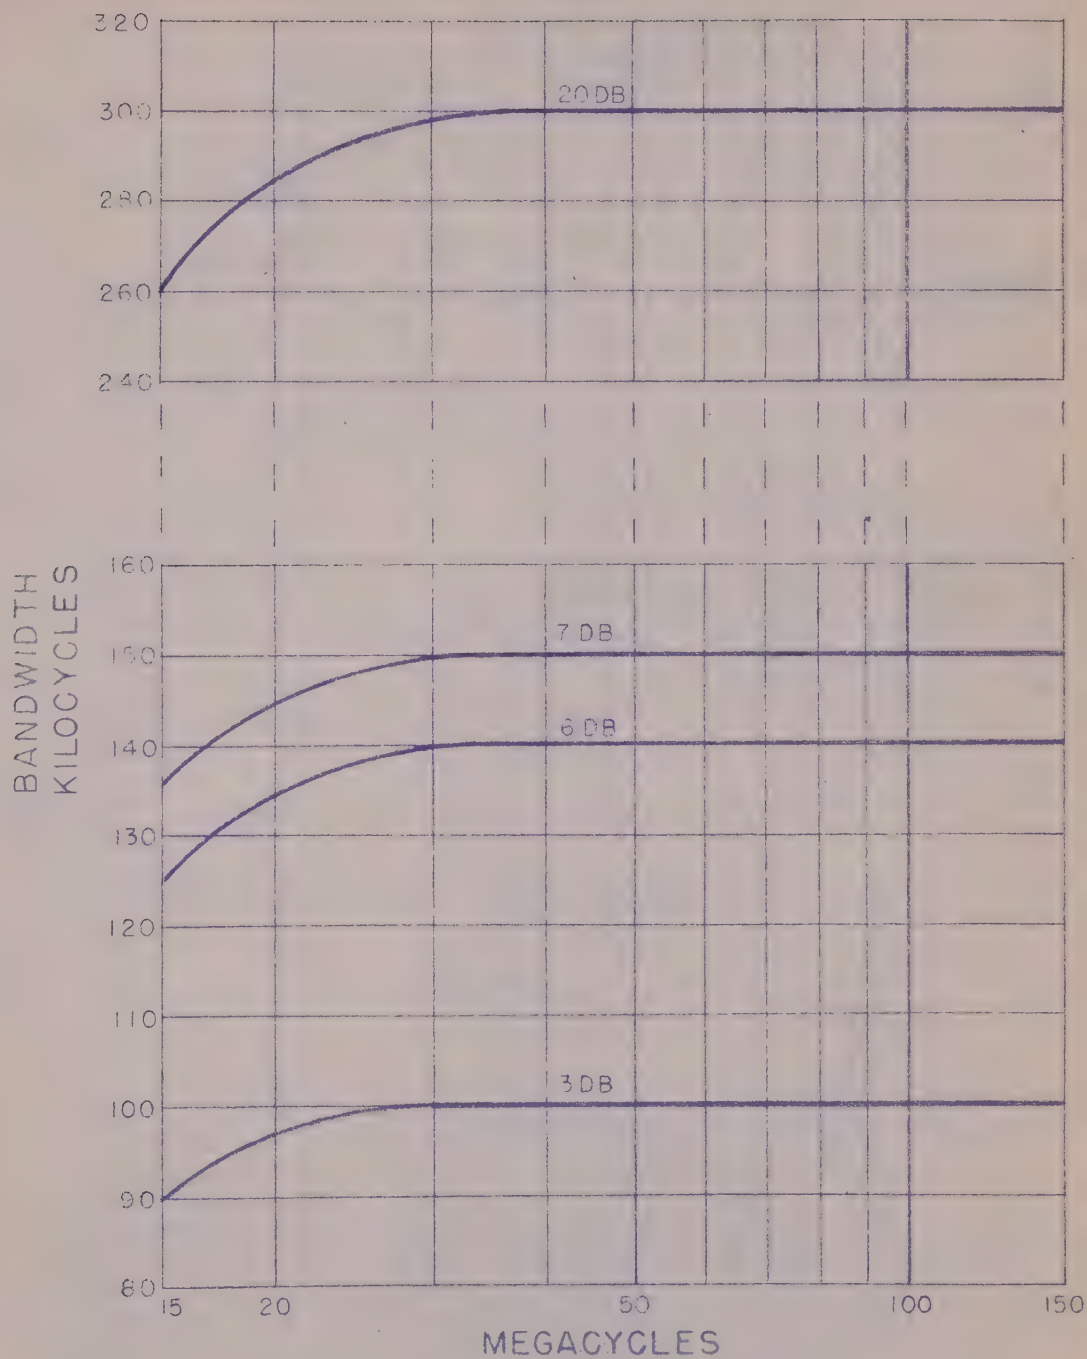

Figure 2. - Typical Average Selectivity Characteristic of Model 58-AS.
| Figure 2. Typical Average Selectivity Characteristic Of Model 58-AS |           | 3              |
1. For CW signals, bandwidth is 140 kilocycles at 6 db points. (See Fig. 2). Tolerance + 10%.